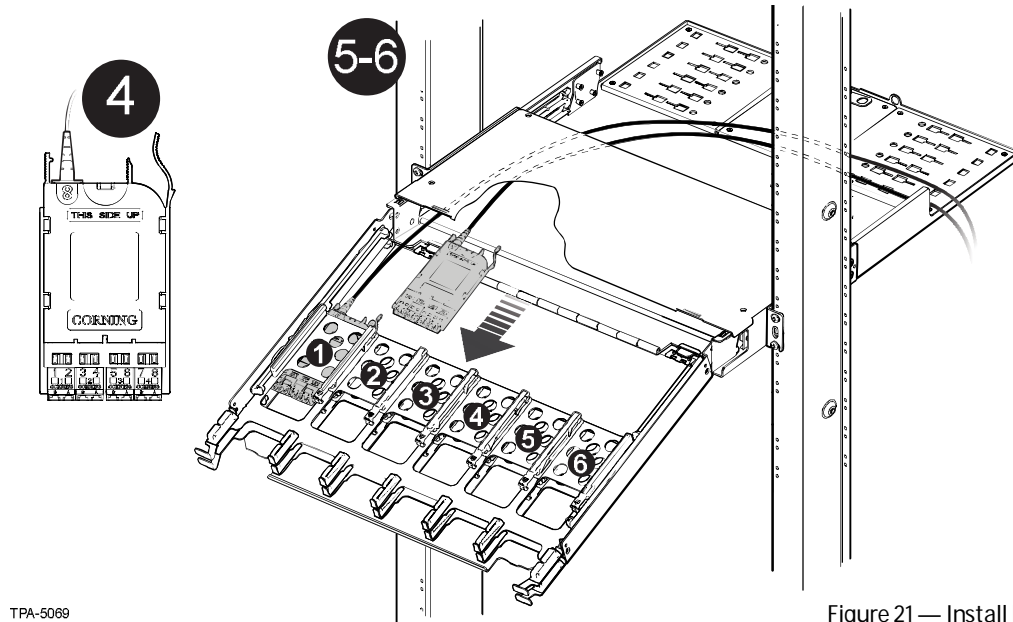

Figure 21 — Install EDGE8™ Module
- Step 5: Starting with the lower left corner (Tray 1, slot A, as seen from the front), insert the module from the rear until it locks into place (Figure 21).